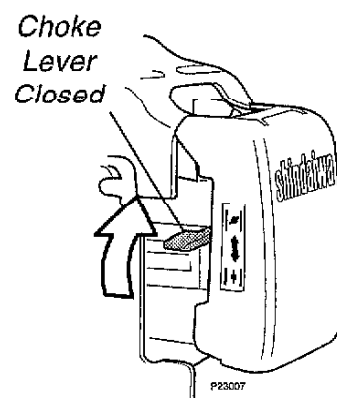

Figure 23
4. Choke the engine by moving the choke lever up to the “closed” position. See Figure 23.